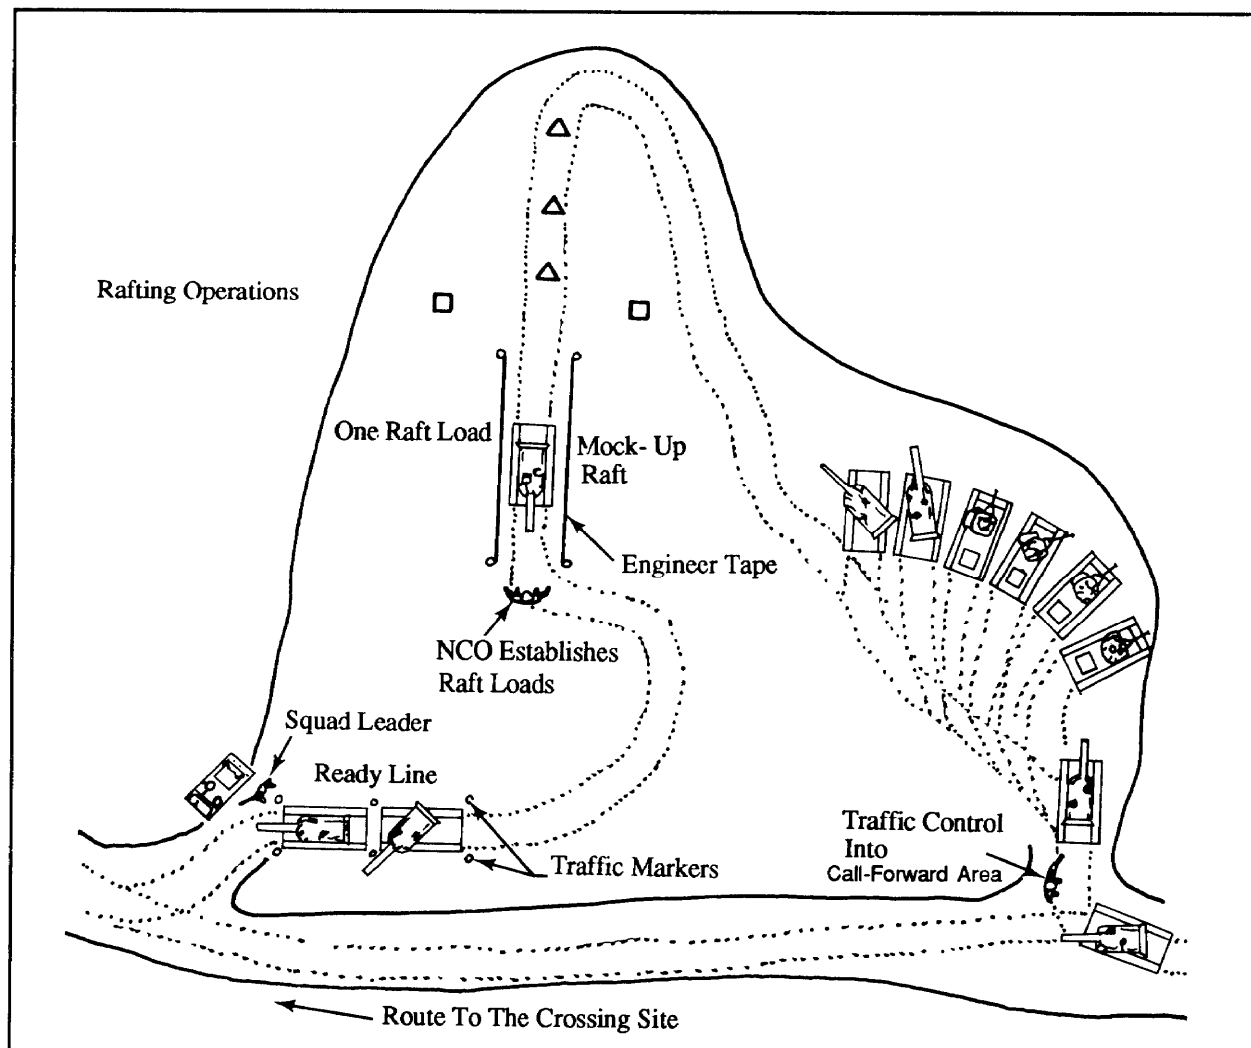

Figure 9-1. ERP layout
*Figure 9-1, page 9-2, is an example of an ERP at the call-forward area. The engineer squad leader positions himself where he can best control vehicle movement from the call-forward area to the river line. He establishes communication with the crossing-site headquarters. As a crossing unit arrives, the assistant squad leader contacts the unit's commander, who determines the order in which his vehicles will cross. The assistant squad leader then configures individual vehicles into raft loads, while ensuring that the vehicles do not exceed either the weight limit or the maximum dimensions of the raft. He has a space marked out in the exact dimensions of a raft for this purpose. An engineer squad member guides the vehicles onto this mockup raft, using the same procedure to be used at the raft embarkation point on the river. At the same time, another engineer inspects vehicles for proper load classification and dimensional clearances and chalks the raft load number onto the vehicles. Once cleared through the mockup, an engineer guides the raft load to a ready line. The engineer squad leader releases individual raft loads to the river as directed by the crossing-site headquarters.*